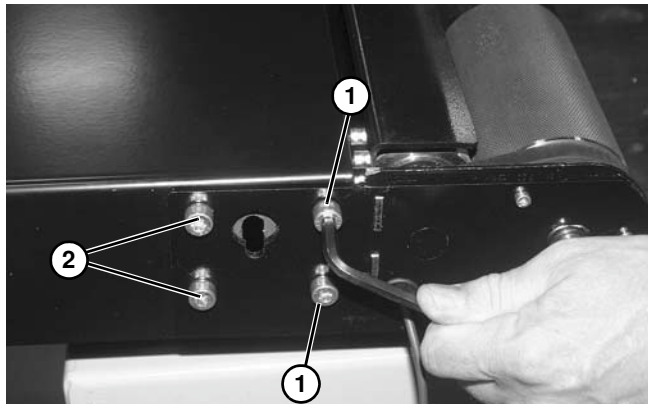

Figure 190
4. Loosen two screws (**Figure 190, item 1**) on each side and end of conveyor
5. Remove two screws (**Figure 190, item 2**).